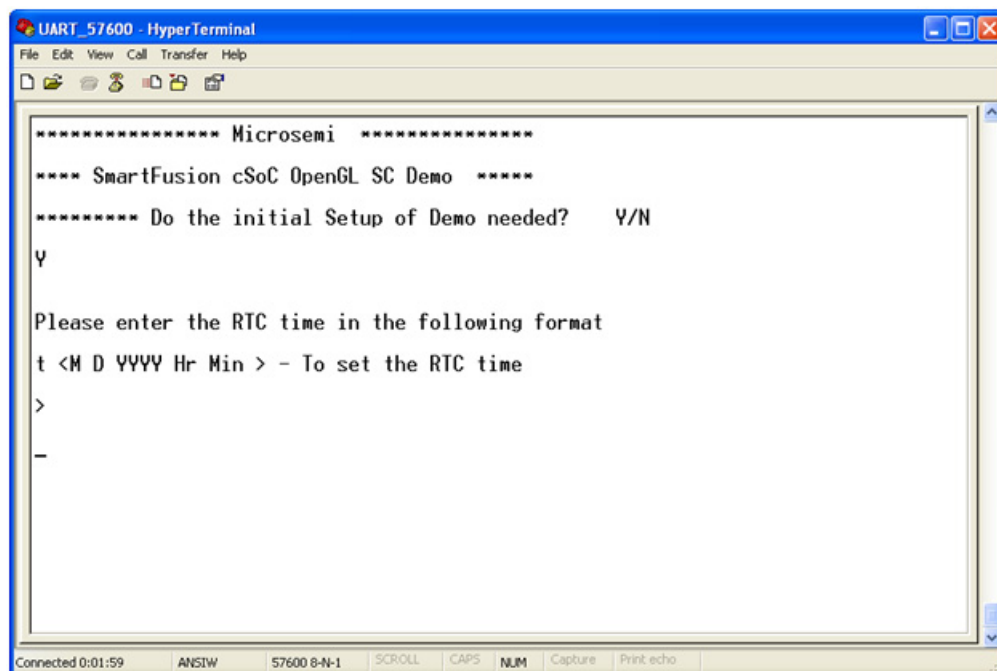

Figure 4-4 • Demo 2
15. First, type Y in the HyperTerminal window, then text will be displayed, on the HyperTerminal window as shown in Figure 4-4.